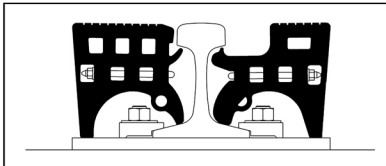

Figure 2
- 2 Place rubber Interface into the web of the rail as shown (Fig. 2)